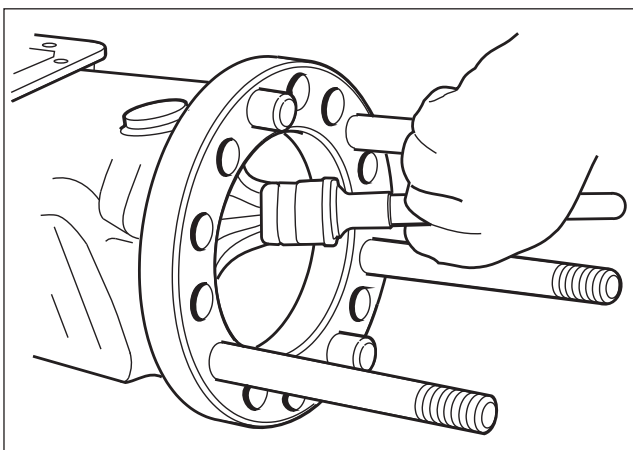

Fig. 3.3
3. Apply grease on the joint surface. - Fig. 3.3